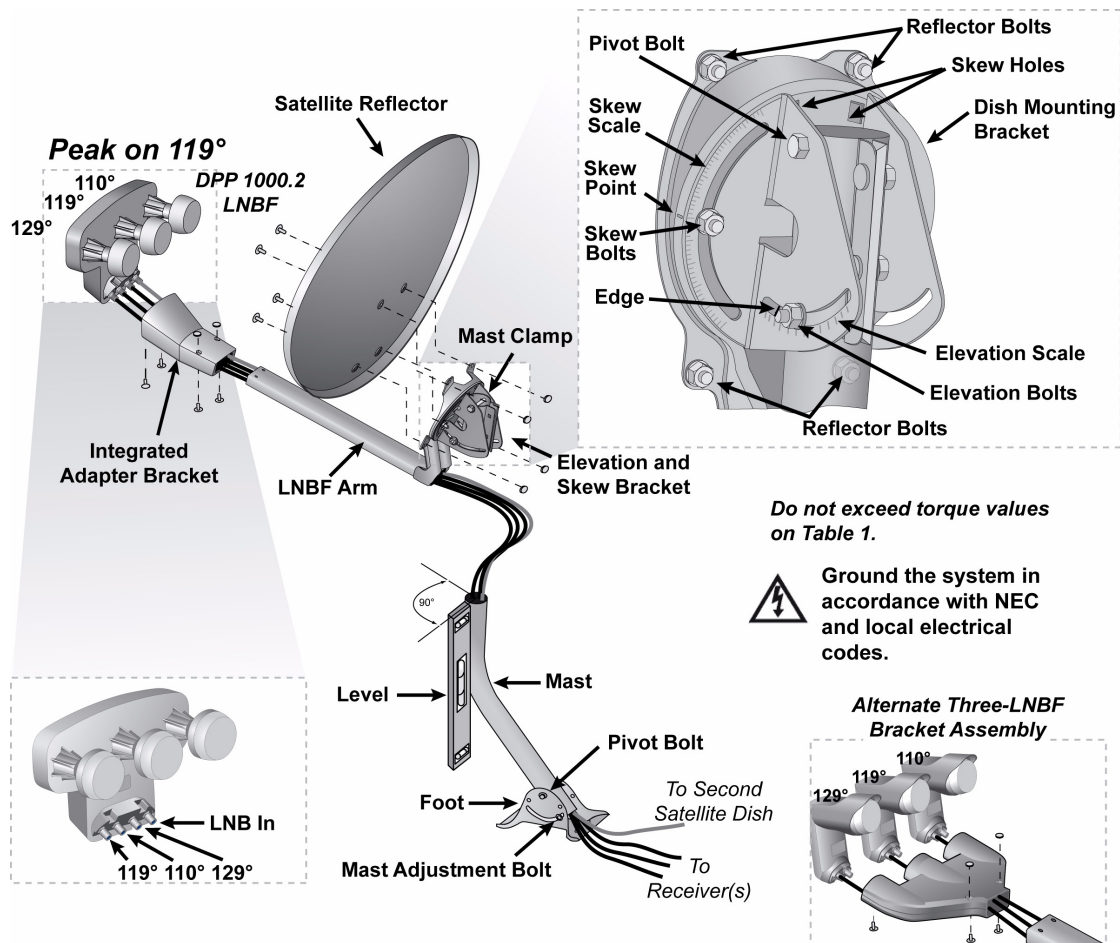

Figure 1. DISH 1000.2 Antenna Installation Overview
- 3 Align the top part of the mast so that it is absolutely vertical. If the top part of the mast is off vertical by only a few degrees, it will be difficult or maybe even impossible for you to find the satellites. Take at least two readings with a level, on the upper mast, that are 90 degrees apart from one another (see Figure 1).
- 5** Assemble the satellite dish as shown in Figure 1, except do not attach the LNBF at this time.
Use the steps below while referring to Figure 1.
- 3 Connect the coaxial cable between the LNBF on the second dish and the **LNB IN** port on the DPP 1000.2 LNBF. Refer to figure 1 on page 2.